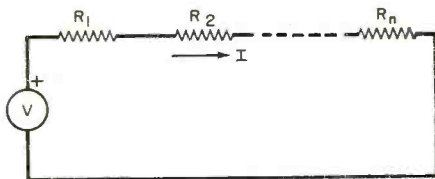

Fig. 12
A. Resistors in Series. Consider n resistors connected in series (Fig. 12). Applying Kirchhoff's voltage law, $V = I(R_1 + R_2 + \dots + R_n) = IR_{eq}$, where $R_{eq} = R_1 + R_2 + \dots + R_n$ is the equivalent resistance. The equivalent resistance of a number of resistors in series is equal to the sum of the individual resistors.